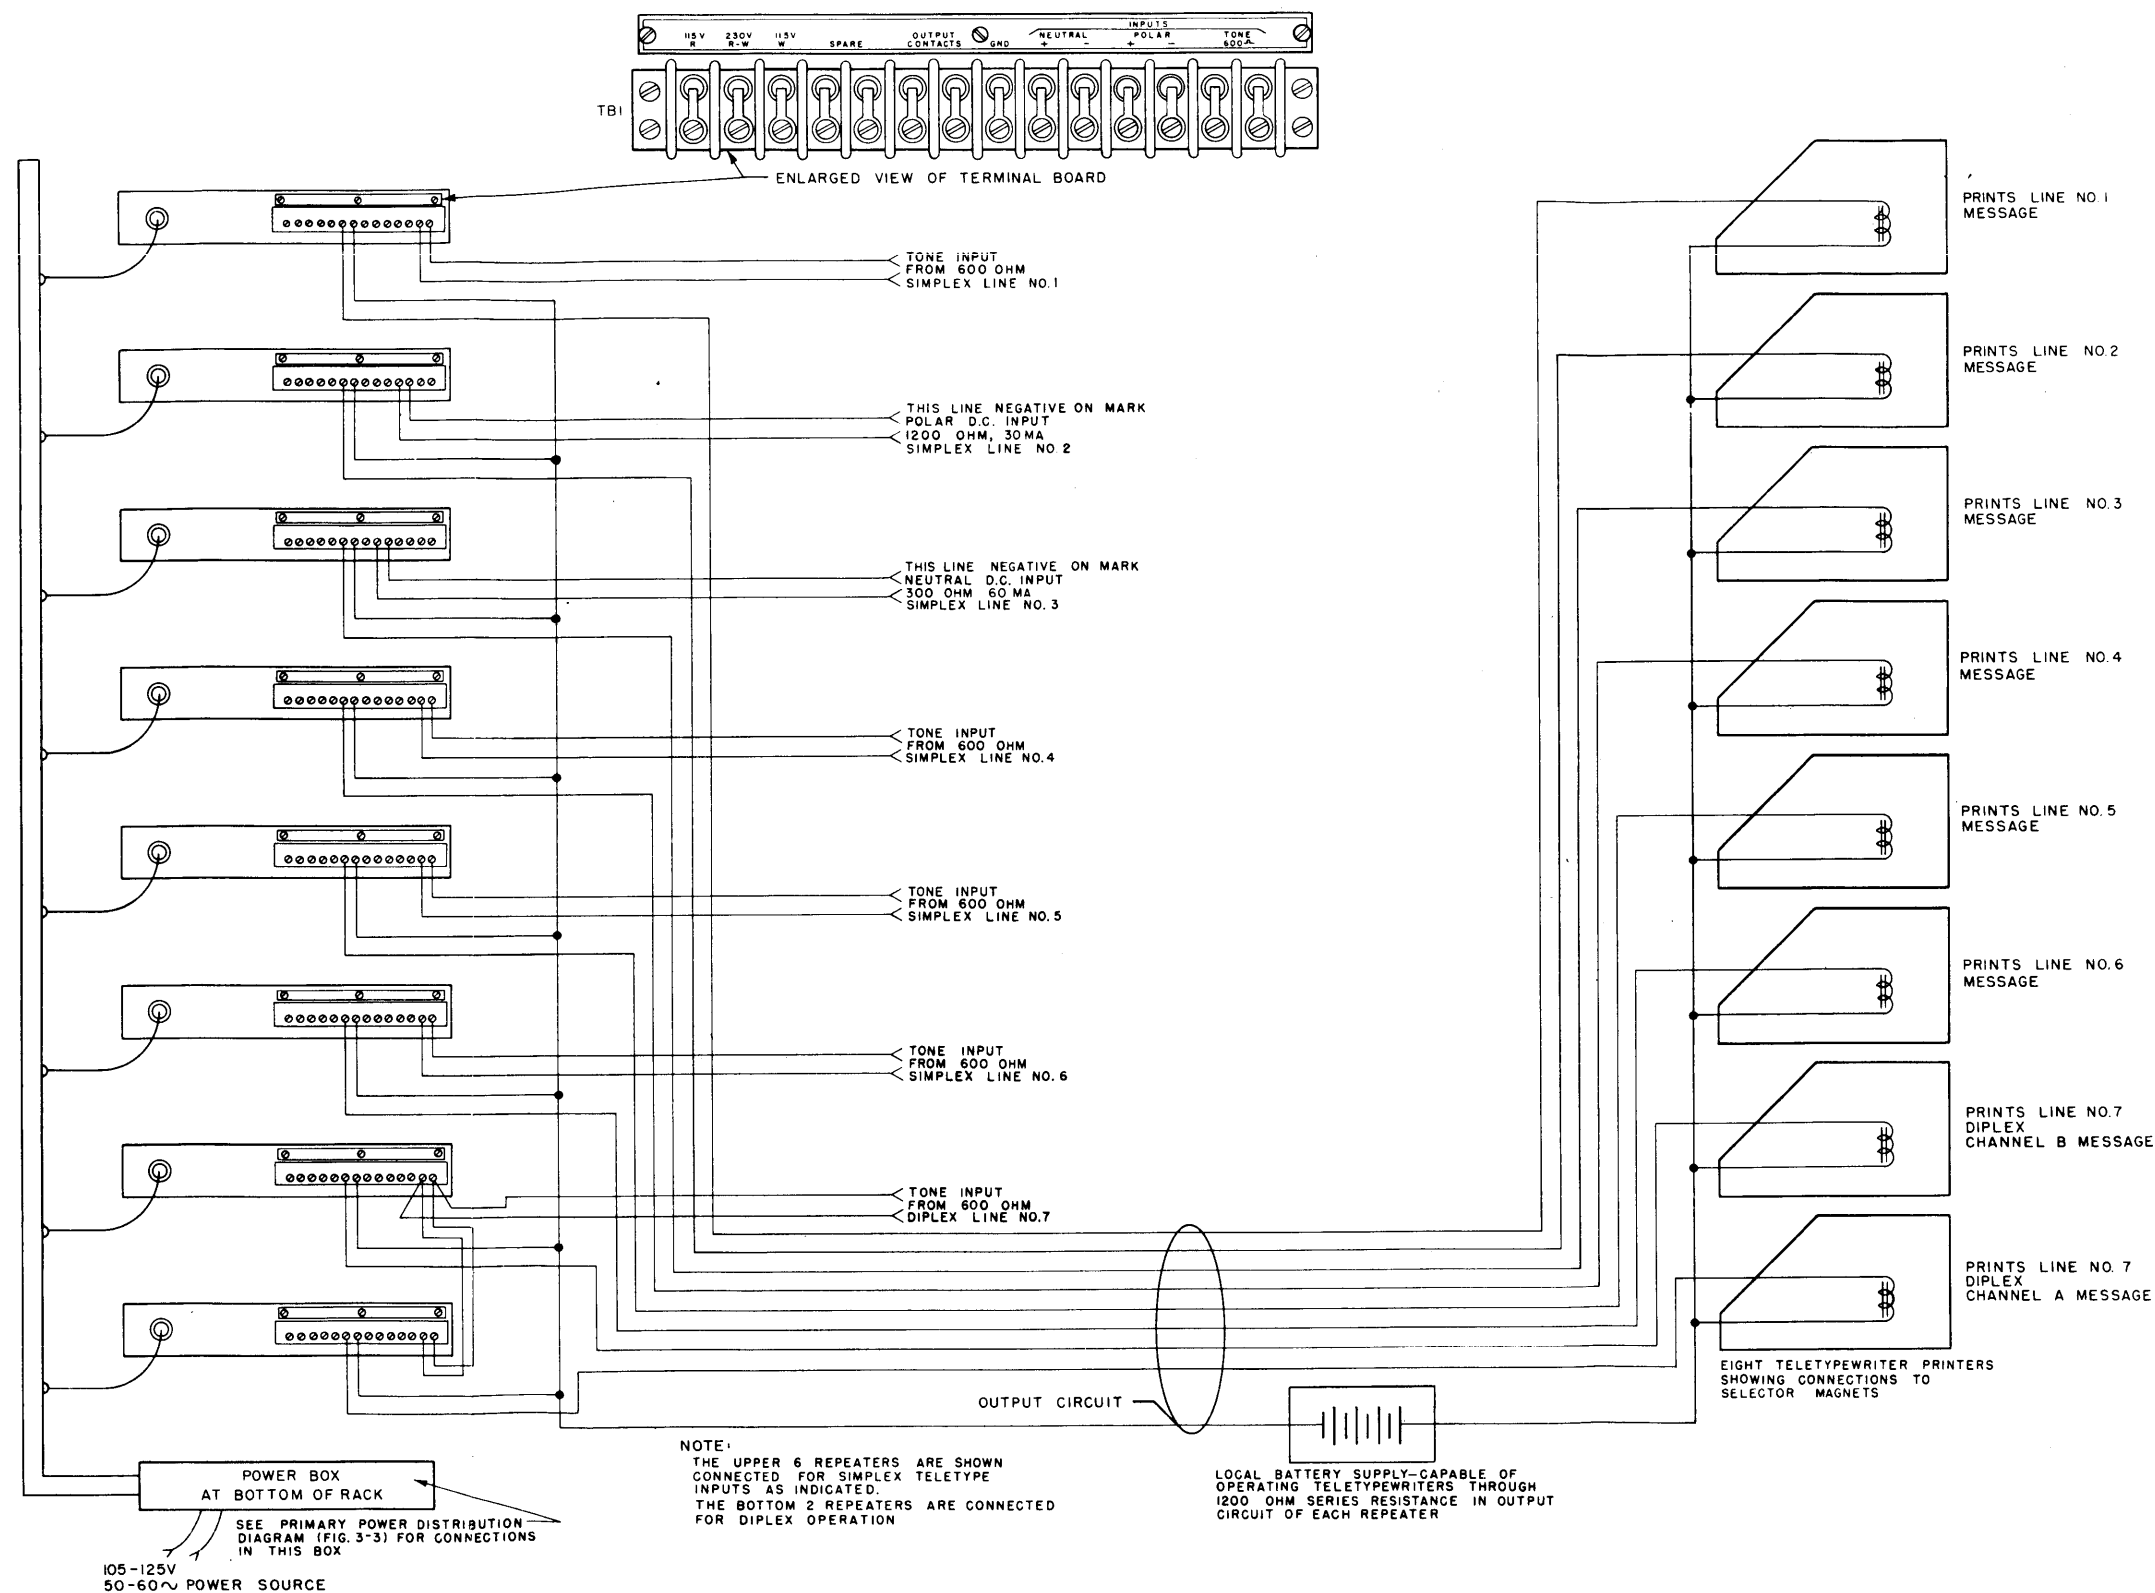

Figure 3-5. Teletypewriter Repeater Set AN/FGC-7A
f. A power supply suitable to operate the teletypewriters must be connected in series with the output of each Teletypewriter Repeater TT-63A/FGC as illustrated in the Interconnecting Drawing, Figure 3-5. Output wiring should be made in accord with this drawing. If the equipment is located in a position where radiated noise may be troublesome to receivers, the output lines from the equipment should be shielded and the shielding grounded to the GND output terminal on the Repeater terminal board. Since neither connection of the output from the Repeaters is connected to ground, a two-wire shielded cable is necessary to connect the output from each Repeater to the respective teletypewriter. A suitable variable series resistor may be necessary in the output circuit to each teletypewriter for securing the optimum operating current.
(1) For Neutral or Polar dc inputs the side of the line connected to the negative terminal board connection must be negative during the mark signal. The positive Neutral input connection to the Repeater is ground. The positive Polar input connection to the Repeater is 620 ohms to ground as is the negative terminal. Inputs that are balanced to ground are thus provided for polar operation.
(2) Tone input to the Repeater is normally 600 ohms balanced to ground but one of the Tone input terminals may be grounded to provide unbalanced input if desired.
(3) For duplex operation the inputs of the two Repeaters to which the signal is fed are wired in parallel (plus to plus and minus to minus for dc inputs).
(4) Input lines should be shielded if there is much chance of noise pick-up by the leads or if there is noise radiation from the leads.
The polarity of the MONITOR jack depends on the polarity of connection to the output terminals of the Repeater. The tip of the plug going into the MONITOR jack is normally negative and the shell positive. If battery connections are not as shown in Figure 3-5 the reverse polarity may apply at the MONITOR jack.